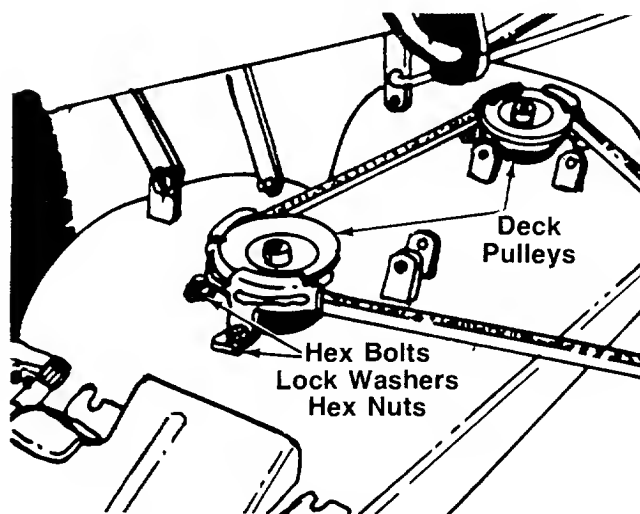

FIGURE 21.
8. Remove the belt guards at each deck pulley by removing the hex bolts, lock washers and hex nuts. See figure 21.